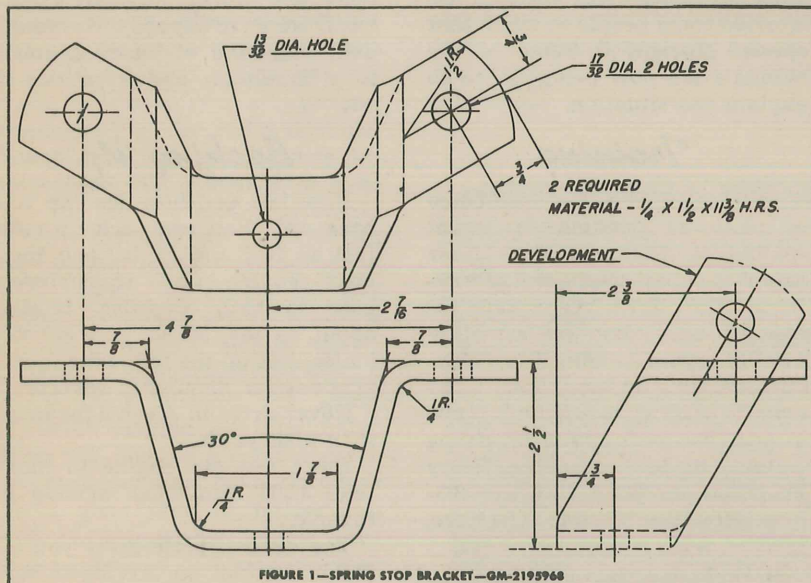

FIGURE 1—SPRING STOP BRACKET—GM-2195968
**If you can't get these parts through regular supply channels, go ahead and make them. Figures 1 and 2 show you how.
**If you can't get this part through regular supply channels, go ahead and make it. Figure 1 shows you how.